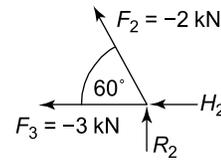

Figure 6.33
**Consider next joint 3**; see Figure 6.33.